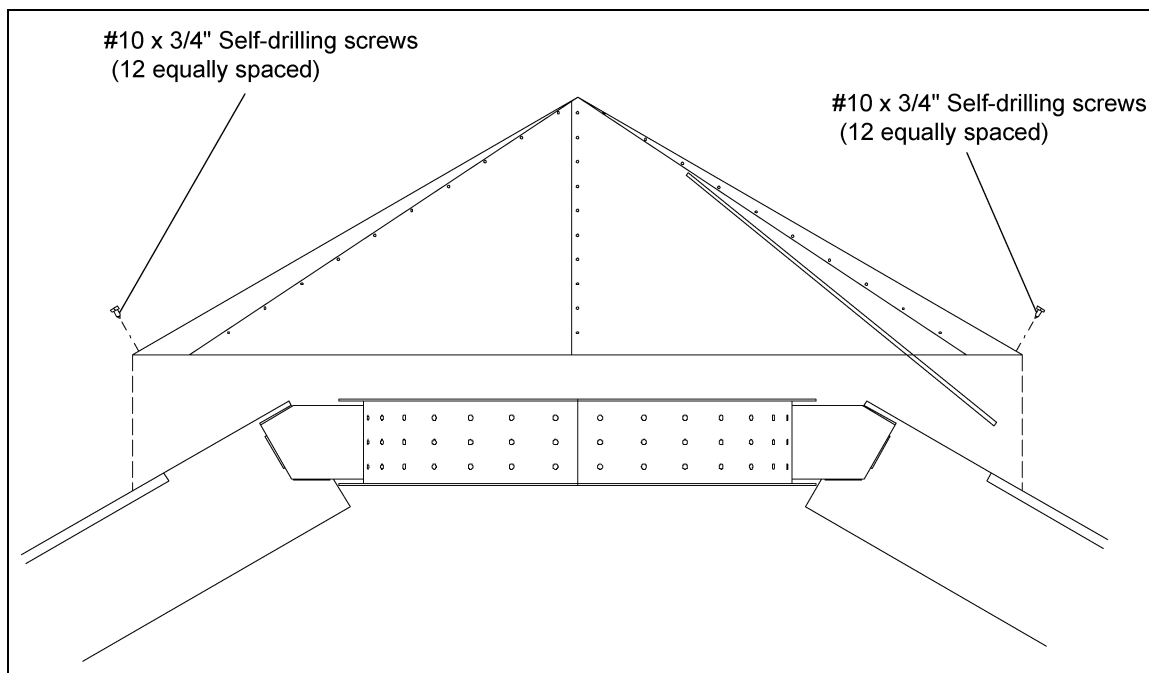

Figure 9F
After chains have been adjusted, install cone over the center collar. Fasten cone assembly with twelve (12) #10 x 3/4" self-drilling screws (S-280). (See Figure 9F.)